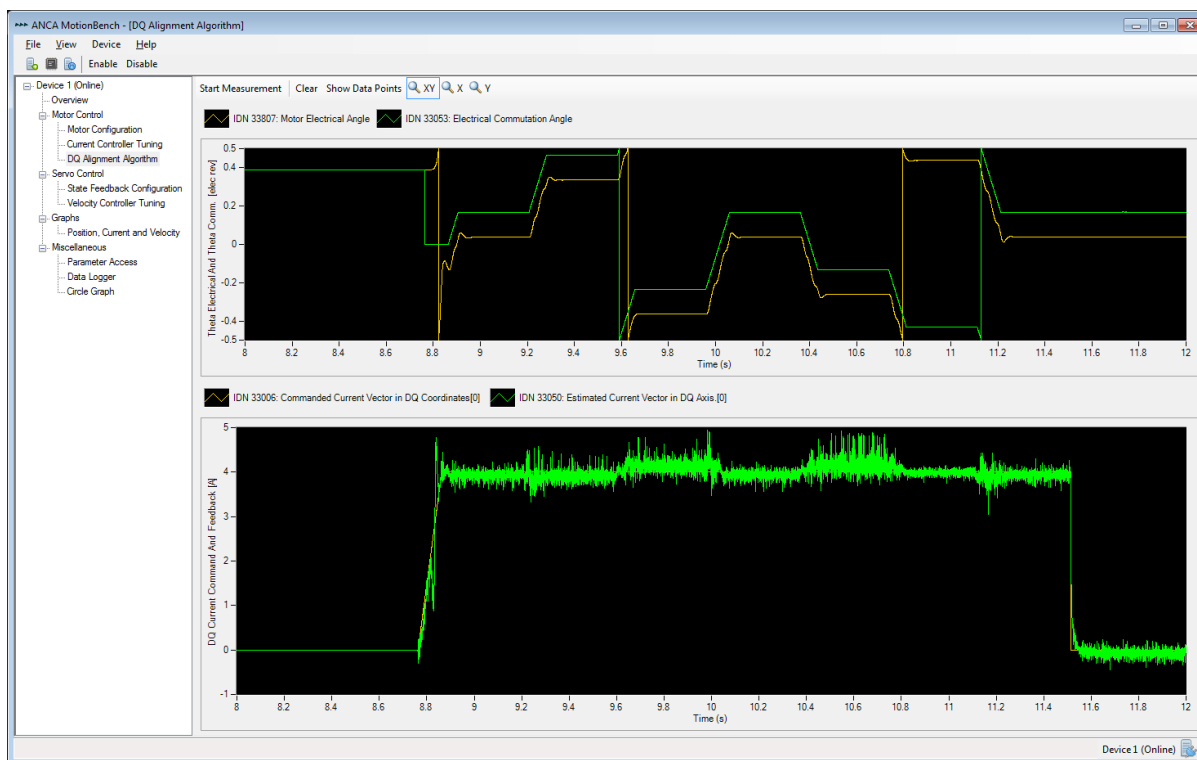

Figure 7-12 - Motor Electrical Angle follows Motor Commutation Command correctly. Alignment Current Feedback follows Alignment Current Command correctly.
- *Figure 7-12* shows an example of a good alignment. Notice how the offset between the Motor Commutation Command and the Motor Electrical Angle remains approximately constant.
- Figure 7-12 shows an example of a good alignment. Notice how the Alignment Current Feedback follows Alignment Current Command correctly.